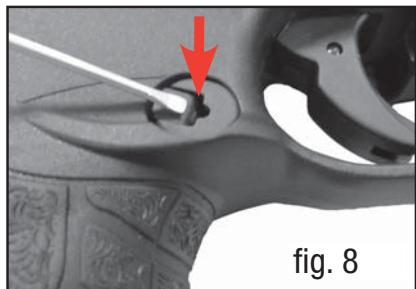

fig. 8
- Push the flat side of the allen wrench (item no. 416.70.04.3) into the opening in the counter support (Fig. 8).